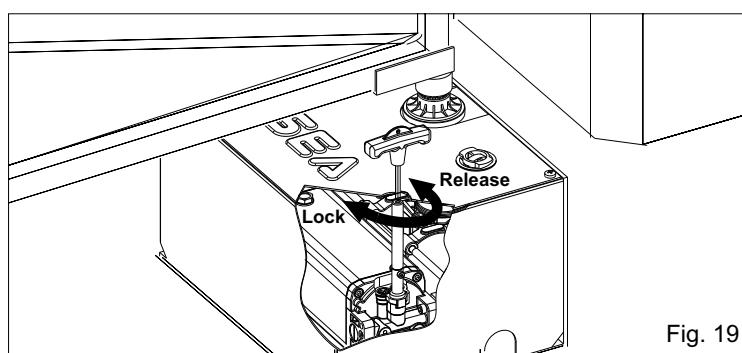

Fig. 19
- Put the key into the release extention and turn the handle of about 180° anti-clockwise (Fig. 19)